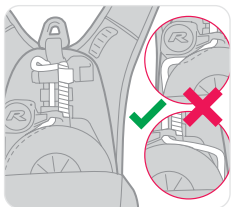

Figure 6
- Inspect descent line for any 'slack' between the drum and rack (Figure 6). If the line is slack the MSA PRD shall be removed from service and advice sought from MSA or authorised agent.